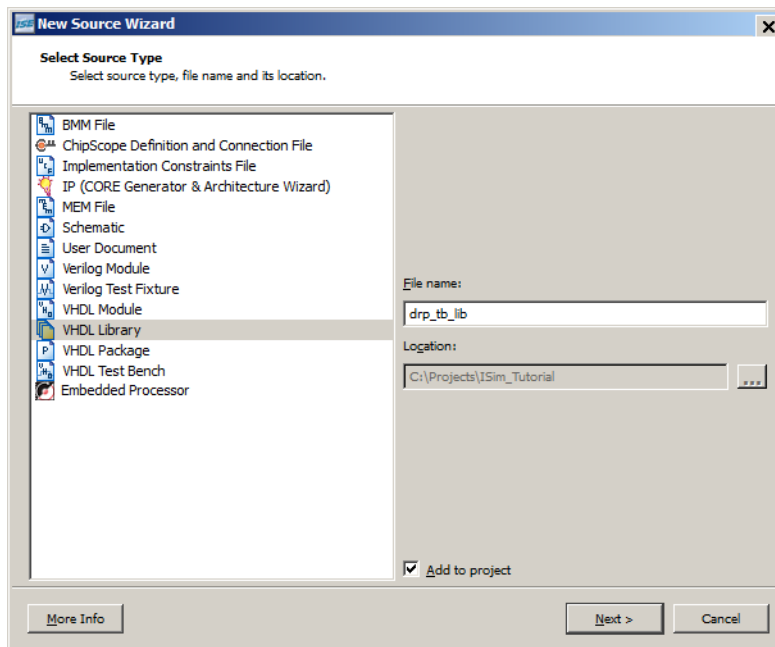

Figure 2-4: Select Source Type
3. Type **drp_tb_lib** for the VHDL library name. (Refer to Figure 2-4).